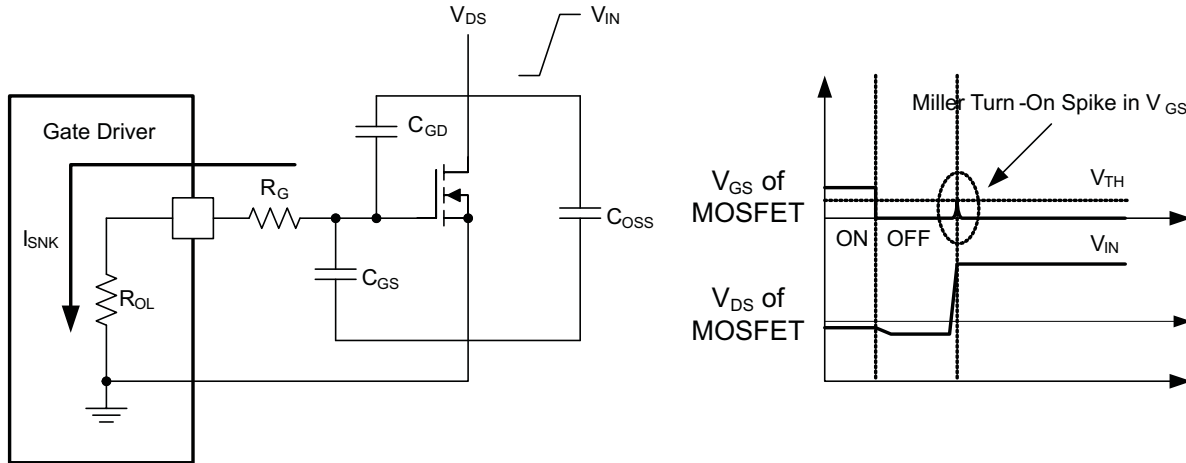

Figure 28. Low Pulldown Impedance in UCC27531-Q1 (Output Stage Mitigates Miller Turn-on Effect)
An example of a situation where Miller turn on is a concern is synchronous rectification (SR). In SR application, the dV/dt occurs on MOSFET drain when the MOSFET is already held in Off state by the gate driver. The current charging the C_{GD} Miller capacitance during this high dV/dt is shunted by the pulldown stage of the driver. If the pulldown impedance is not low enough then a voltage spike can result in the V_{GS} of the MOSFET, which can result in spurious turn on. This phenomenon is illustrated in Figure 28.